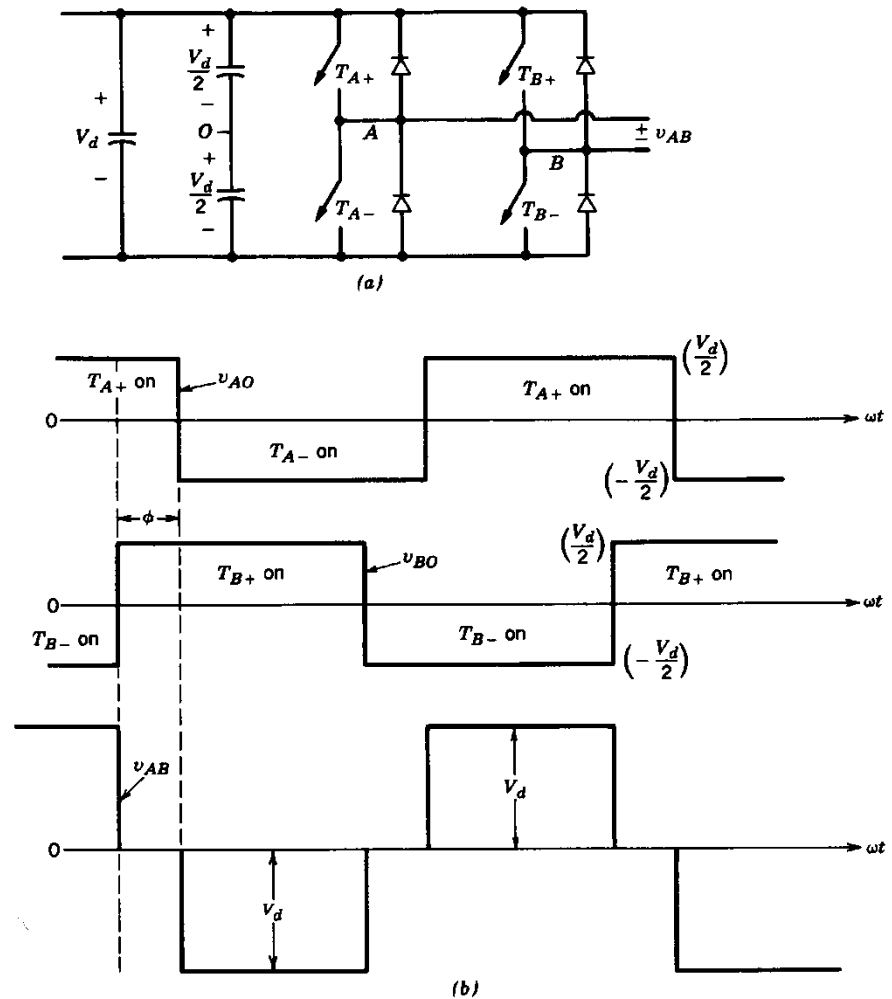

Figure 9-38 Voltage control by voltage cancellation: conventional switch-mode converter.
- ZVS-CV technique can be extended to single-phase DC_AC inverter with voltage cancellation: Figure 9-38(a)